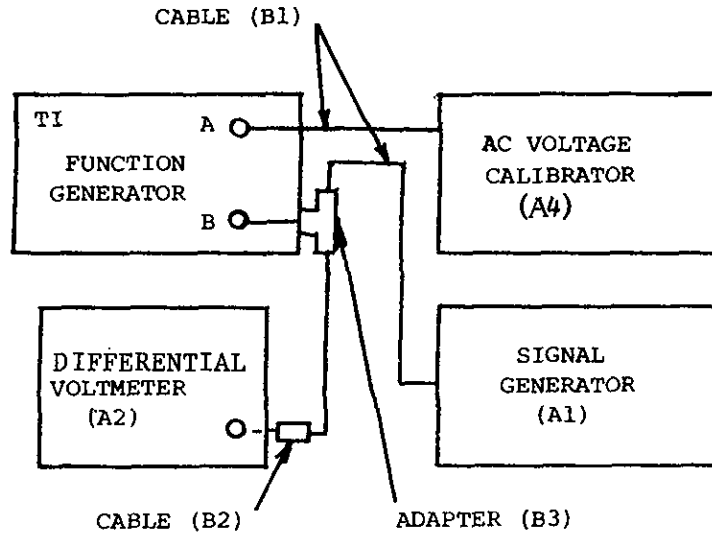
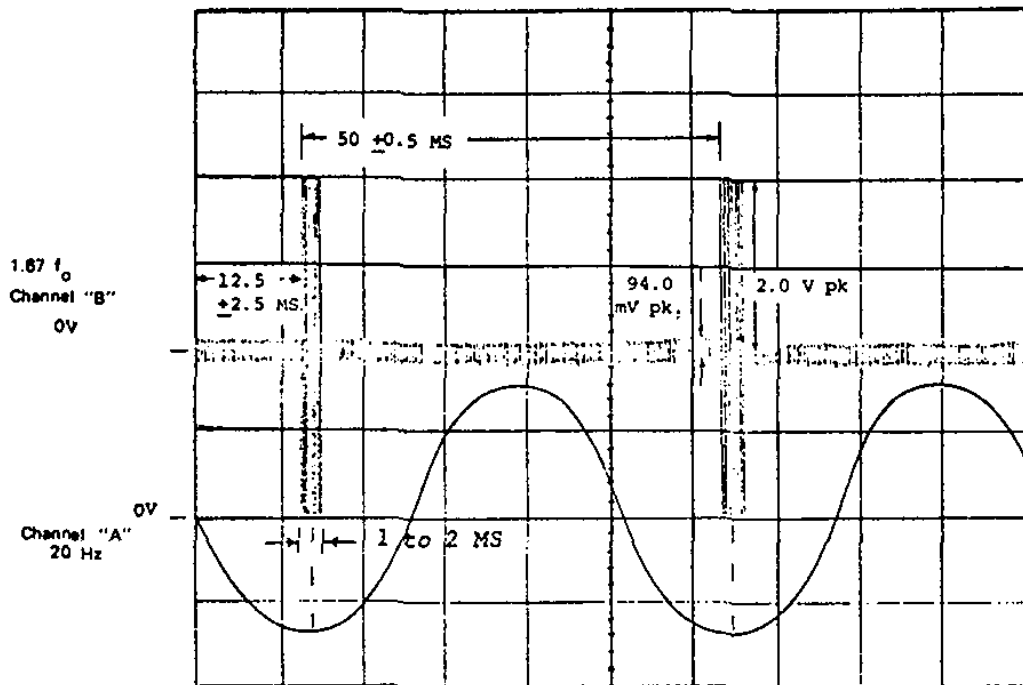

Figure A-1. Bandpass Signal Setup.
Figure A-2. Bandpass Signal
- (1) Connect ac voltage calibrator (A4) to TI FUNCTION GENERATOR "A" with cable (B1) and connector (B2). Set TI TEST SELECTOR to BANDPASS.
- (2) Adjust ac voltage calibrator controls for 6.0 kHz and 1.4142 V rms.
- (3) Connect differential voltmeter (A2) to TI A101 TP-0 (Lo/Black) and A101 TP-2 (Hi). The differential voltmeter must indicate between 0.0662 and 0.0672 V rms.
- (4) Connect TI A101 TP-7 to A101 TP-8 with electrical lead (B10) and two adapters (B7).
- (5) Disconnect differential voltmeter at A101 TP-2 and connect to A101 TP-3 (Hi). The differential voltmeter must indicate between 1.310 and 1.450 V rms.
- (6) Disconnect jumper at TI A101 TP-7 and TP-8. The differential voltmeter must indicate between 0.0620 and 0.0667 V rms.
- (7) Disconnect electrical leads. Connect equipment as shown in figure A-1.
- (8) Adjust ac voltage calibrator (A4) FREQUENCY controls for 1.67  $\zeta$  and output voltage controls for 1.4142 V rms.
- (9) Position signal generator (A1) frequency controls for 20 Hz and adjust AMPLITUDE control for a differential voltmeter (A2) indication between 1.9 and 2.1 V rms. Disconnect differential voltmeter.
- (10) Connect frequency counter (A3) to TI FUNCTION GENERATOR "B" and adapter (B3). Adjust signal generator frequency controls for a frequency counter indication between 49.9 and 50.1 milliseconds.
- (11) SET OSCILLOSCOPE (A5) channels "A" and "B" to dc coupled and connect channel "A" to TI TP-4. Connect channel "B" to TI TP-3. Connect oscilloscope common to TI TP-O. Connect EXT TRIG on oscilloscope to TI FUNCTION GENERATOR "B". Adjust oscilloscope controls to display the bandpass signal as shown in figure A-2.
- (12) WITH OSCILLOSCOPE CH 1 and CH 2 POSITION controls verify that negative peaks of CH 1 display is coincident with negative peaks of CH 2 display.
- (13) Utilizing oscilloscope TIME/DIV controls measure the interval between start of sweep and leading edge of first bandpass signal pulse. Oscilloscope must indicate between 10.0 and 15.0 milliseconds.
- (14) Utilizing oscilloscope DLY'D SWP function and DELAY TIME control, measure width of the positive portion of bandpass signal pulse. Oscilloscope indication must be between 1.0 and 2.0 milliseconds.
- (15) Utilizing oscilloscope DLY'D SWP function and DELAY TIME control, measure the time interval between leading edge of first bandpass signal pulse and second bandpass signal pulse. Oscilloscope indication must be between 49.5 and 50.5 milliseconds.
- (16) Connect oscilloscope A input to START connector and B input to STOP connector.
- (17) On the TI set the START switch to ON. The oscilloscope A input signal will go from a logic low to a logic high as the switch is set to ON (from 0  $\pm$ 0.5 V to 9.5  $\pm$ 0.5 V).
- (18) On the TI set the STOP switch to ON. The oscilloscope B input signal will go from a logic low to a logic high as the switch is set to ON. (from 0  $\pm$ 0.5 V to 9.5  $\pm$ 0.5 V).